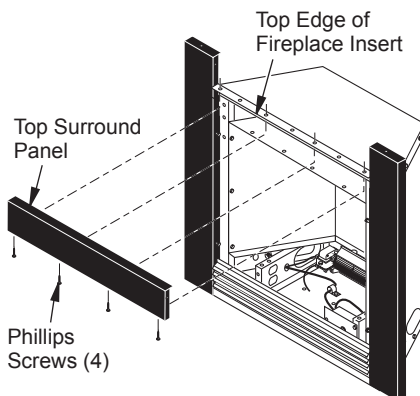

Figure 8 - Attaching Top Surround Panel
5. Place top surround panel at top of fireplace insert. Bottom edge of panel will slide under top edge of insert. Align top panel screw holes with those in insert. Install four #10 Phillips screws, do not tighten. See Figure 8.